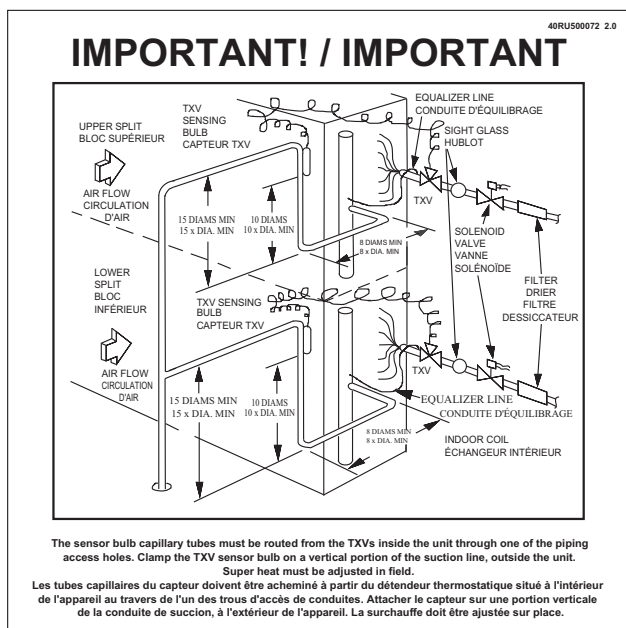

Fig. 18 — TXV Bulb Location Label
- Is TXV bulb located on suction tube per Fig. 18?